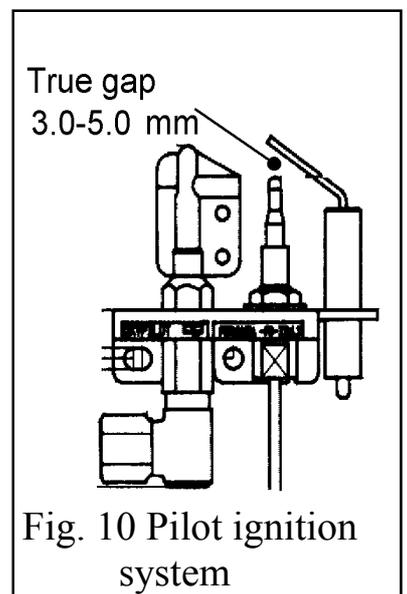

Fig. 10 Pilot ignition system
- b.* Check spark gap between electrode wire and thermocouple tip. See figure 10.